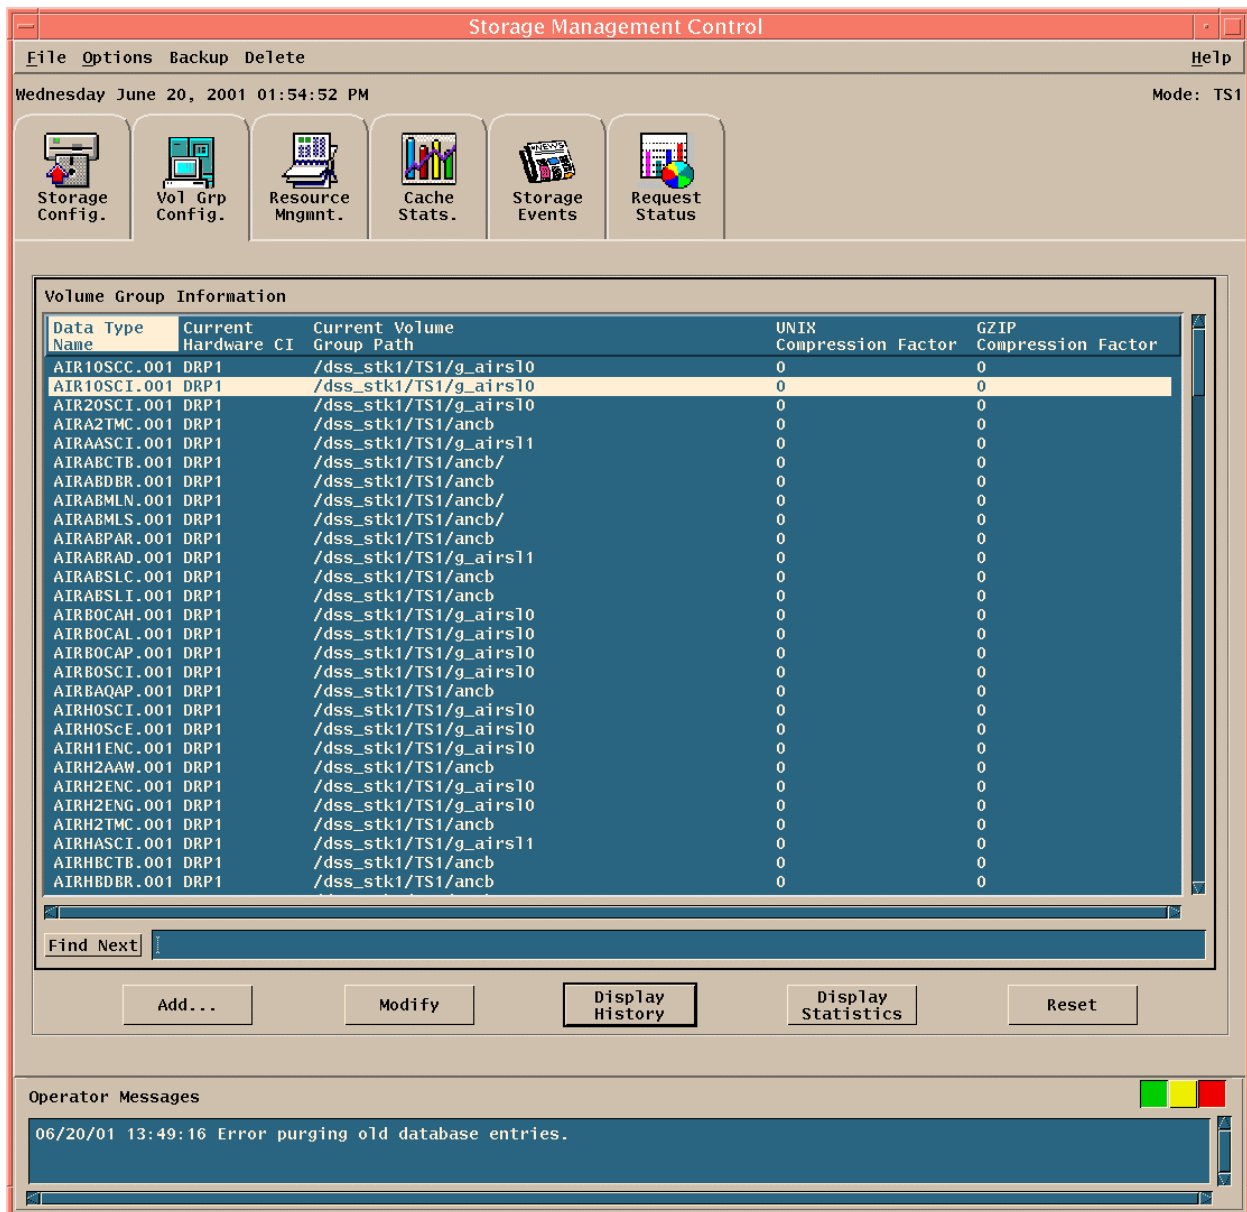

Figure 26.11.5.1-1. Storage Management GUI
- This brings up the Storage Management Control GUI. Refer to figure 26.11.5.1-1
1. This brings up the "Volume Group Information" pane which is what figure 26.11.5.1-1 actually illustrates.